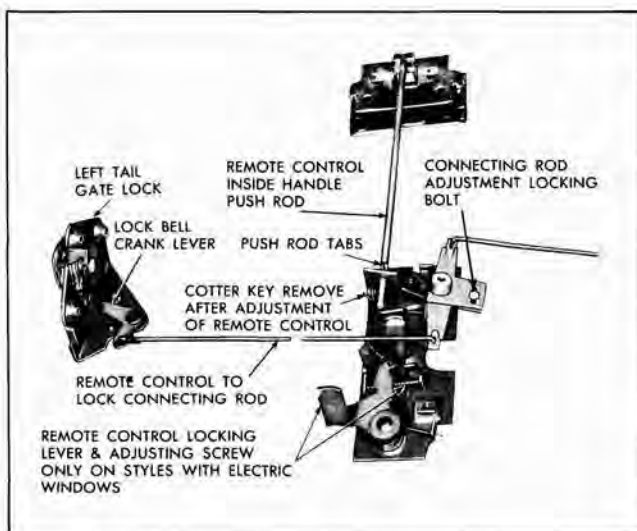

Fig. 5-20 Tail Gate Lock
3. Disengage spring clip and detach lock remote control connecting rod from lock remote control (Fig. 5-20).
To attach lock connecting rod to remote control lever, first, loosen connecting rod adjustment locking bolt at remote control (Fig. 5-20); then, install rod to lever and tighten locking bolt.
NOTE: To engage end of handle push rod into hole in remote control lever, it may be necessary to raise window in tail gate to gain access to lever. Adjust remote control upward until tabs on handle push rod (Fig. 5-20) just contact remote control lever.
2. Disengage clips securing lock connecting rods to remote control (Fig. 5-20) and detach connecting rods from remote control.
2. Adjust remote control assembly up or down until tabs on push rod (Fig. 5-20) just contact remote control lever.
3. To attach lock connecting rods to remote control lever, first, loosen connecting rod adjustment locking bolt (Fig. 5-20); then, install rods to levers and tighten locking bolt.
IMPORTANT: If installing new remote control assembly, remove cotter key (Fig. 5-20) after adjustment to free locking lever.
6. Lower window to approximately 1/2 inch up from "full down" position; then adjust remote control locking lever adjusting screw (Fig. 5-20) so that lever is just contacting window lower sash channel frame. Check operation of remote control inside handle - handle should remain locked until window is lowered to within 1/4 inch of the "full-down" position.